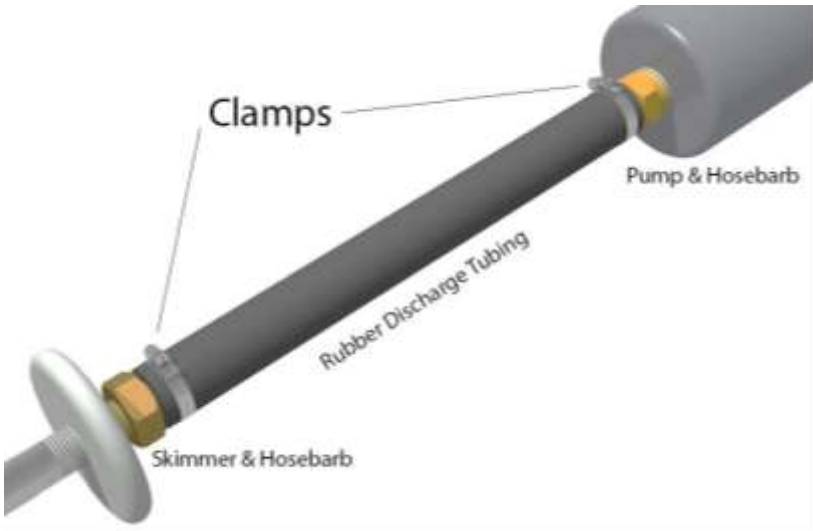

Figure 2-1: Connection between stainless steel pump and intake
- Ensure both ends of the hose are placed as far as they can go on each hose barb and then tighten the hose clamps in place. Refer to Figure 2-1.